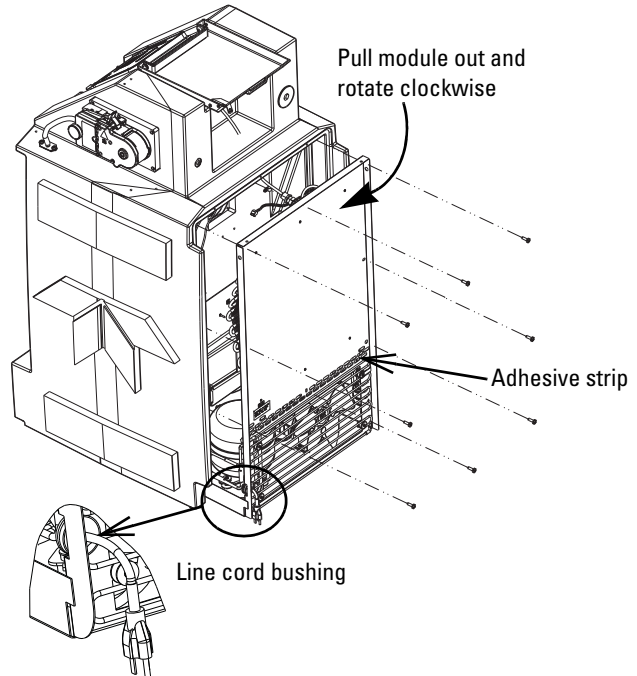

Figure 25: Remove refrigeration module
4. Remove the refrigeration module mounting screws (Figure 25).
5. Carefully pull the module out and rotate clockwise to expose the wiring connectors. The bushing holding the AC line cord in place should slide along the cord (see Figure 25, inset). During reinstallation, the slack created in this step must be removed.